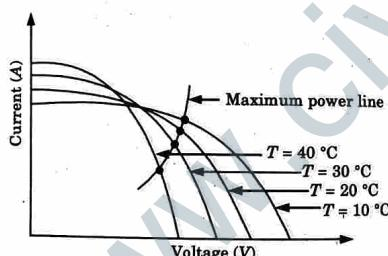

Fig. 3.20.1. V-I characteristics of a PV device.
**Answer****A. V-I Characteristic of Photovoltaic (PV) Device :**
- The V-I characteristic of a PV device is a non-linear graph between current and voltage generated by PV module as shown in Fig. 3.20.1.